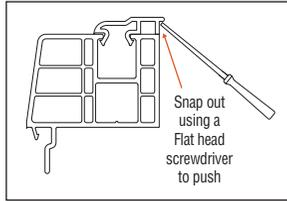

fig. 16
b. Remove the snap on cover from the brickmould. (**fig. 16**)